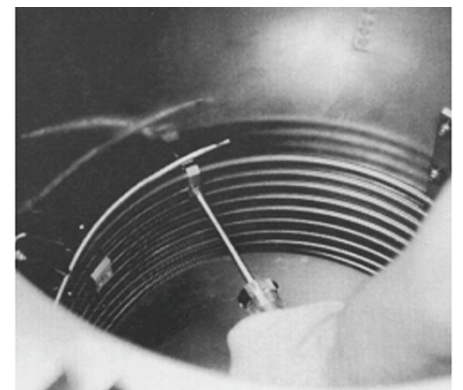

Figure 7
- A. Remove the clamp securing the high limit thermostat bulb to top heater coil (see figure 7). Save this clamp for re-use.